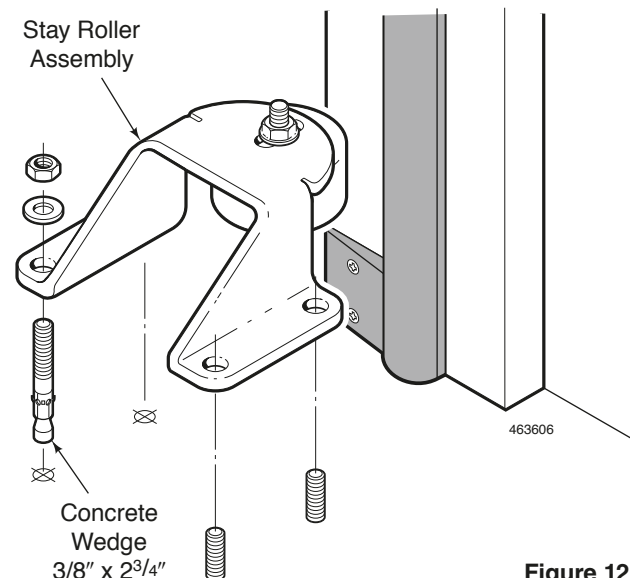

Figure 12
4. Use four $\frac{3}{8}$ " x $2\frac{3}{4}$ " concrete wedge anchors to fasten each Stay Roller to the floor. See Figure 12.